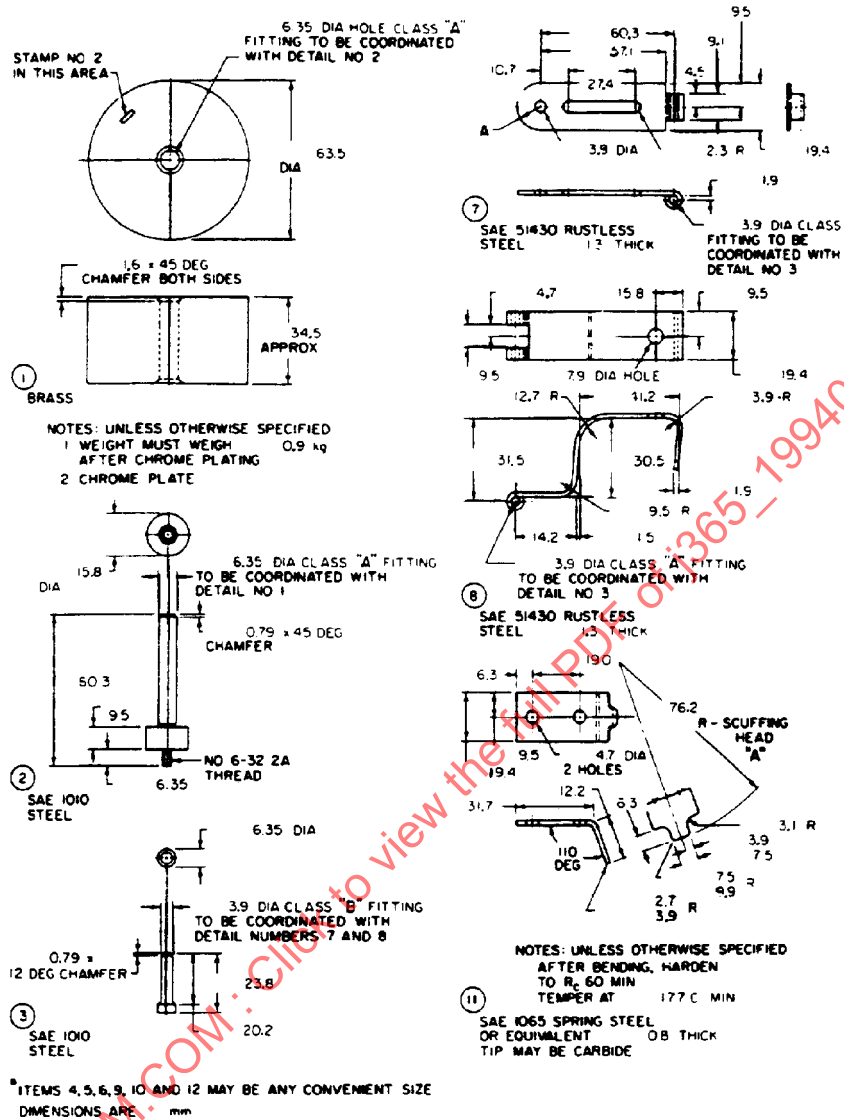

FIGURE 1—COMPONENTS OF SCUFFING ASSEMBLY
- 3.6 **Scuff Fixture**—The special scuff fixture head, weight, and other components are shown in Figure 1 and are assembled as shown in Figure 2. The scuff fixture is attached to the abrader as shown in Figure 3. The scuff head is held at a 110 degree angle. The vertical centerline of the scuff head is 32 mm from the specimen holder center pin. The tip is centered under the 0.9 kg weight and in a horizontal alignment with the center pin as shown in Figure 3.
NOTE—The attachment bracket shown in Figure 1, detail 8 may be modified for other abrader models, provided the scuff head position is maintained and test results correlate.
The scuff head tip shown in Figure 1, detail 11 must be frequently checked for dimensions and reground or replaced if found to deviate from the specified tolerances.